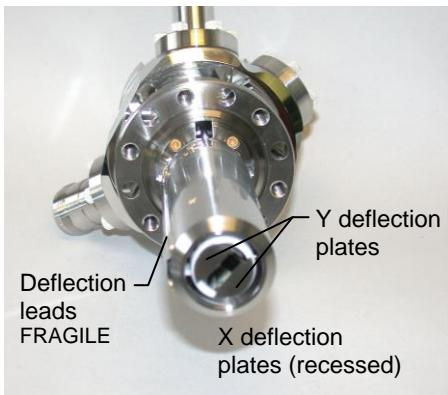

Fig. 2.3-2 EGG-3101 end of gun showing two pairs of deflection plates
- a. Note the orientation of the deflection plates by looking into the front end of the gun. The Y plates are the most visible. The gun is mounted on a rotatable conflat flange to permit the deflection plates to be aligned to a user-determined direction. (Fig. 2.3-2)